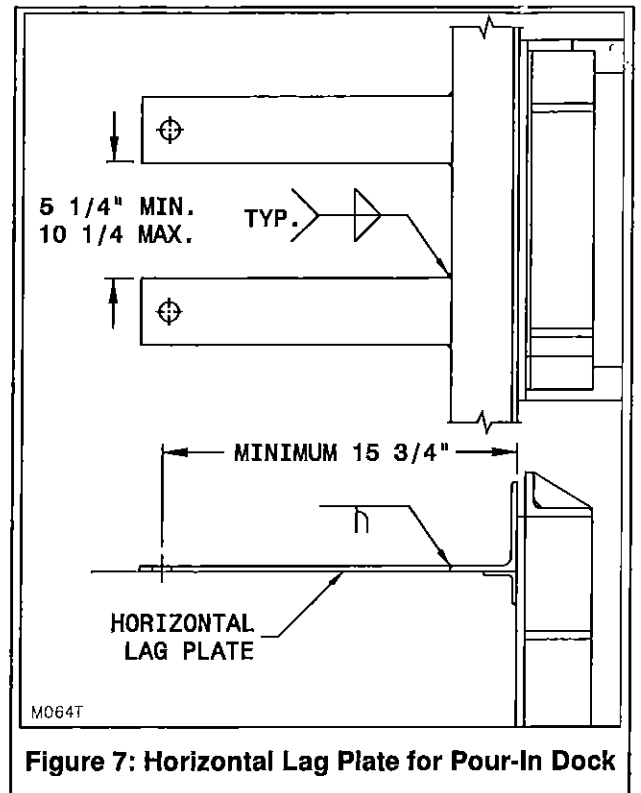
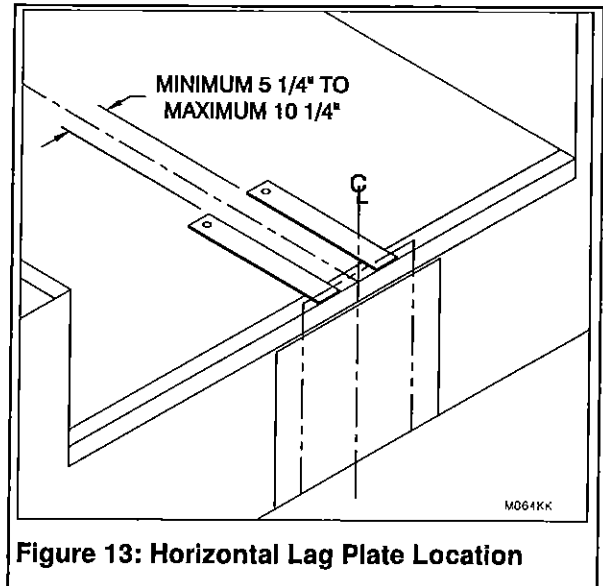

Figure 7: Horizontal Lag Plate for Pour-In Dock
Figure 13: Horizontal Lag Plate Location
- h) Because there is no gap between the front angle of the dock leveler and the dock leveler pit floor, the horizontal lag plates and restraint back plate must both be welded to the dock leveler front angle. Position the horizontal lag plates centered directly behind and perpendicular to the back plate of the restraint, butted up against the front angle of the dock leveler. They must be parallel to each other; not more than 10 1/4" apart and not less than 5 1/4" apart. See Figure 7, page 10.
- k) Replace the horizontal lag plates into the position as noted in item 2.h).
- l) Weld the full width of the horizontal lag plates as well as the vertical depth of the horizontal lag plates to the front angle of the dock leveler. See Figure 7, page 10.
- b) The horizontal lag plates must be positioned centered behind the back plate and parallel to each other; not more than $10 \frac{1}{4}$ " apart and not less than $5 \frac{1}{4}$ " apart (This variation allows for avoiding any shims which may be present under the front angle). See Figure 13, page 15.
- g) Because there is no gap between the front angle of the dock leveler and the dock leveler pit floor, the horizontal lag plates and restraint back plate must both be welded to the dock leveler front angle. Position the horizontal lag plates directly behind and perpendicular to the back plate of the restraint, butted up against the front angle of the dock leveler. They must be parallel to each other; not more than 10 1/4" apart and not less than 5 1/4" apart. See Figure 13, page 15.
- j) Replace the horizontal lag plates into the position as noted in item 1.g).
- k) Weld the full width of the horizontal lag plates, as well as the vertical depth of the horizontal lag plates, to the front angle of the dock leveler. (See Figure 7, page 10.)